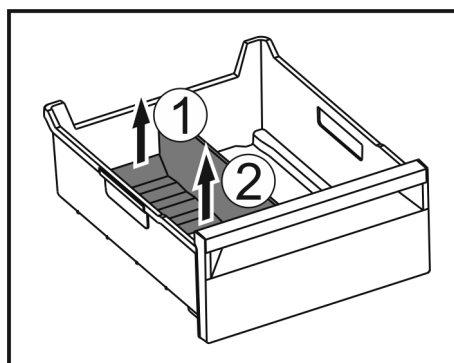

Fig. 159
- ▶ Lift the rear part of the ice compartment divider. Fig. 159 (1)
- ▶ Remove the ice compartment divider upwards. Fig. 159 (2)